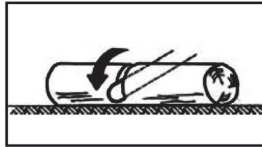

Fig. 4A
1. Log supported along entire length: Cut from top (overbuck), being careful to avoid cutting into the ground (Fig. 4A).